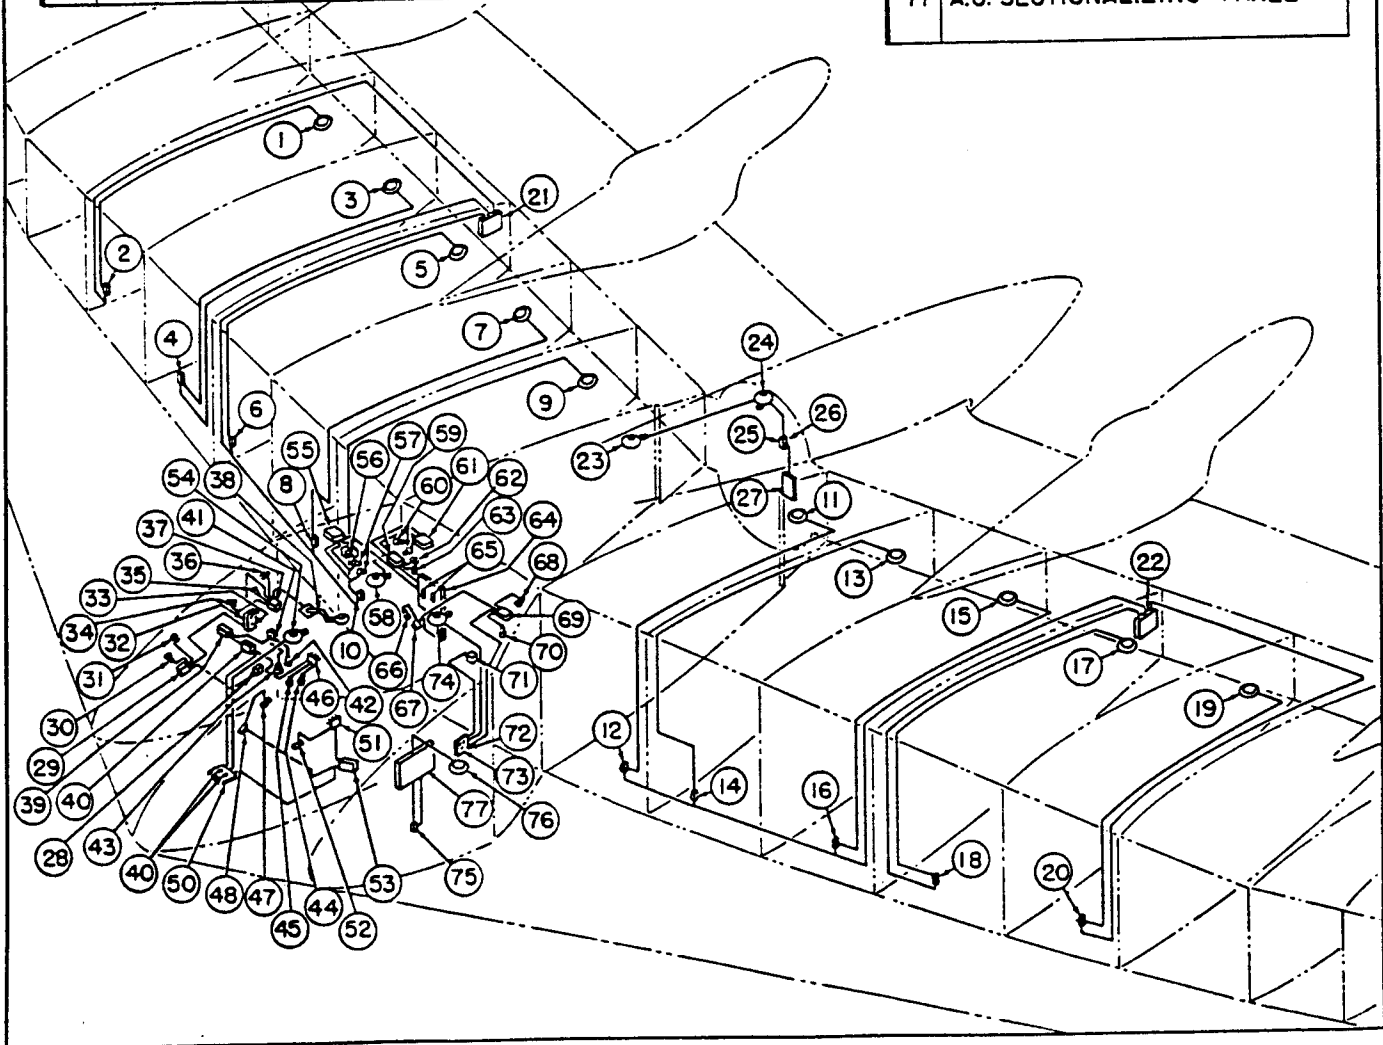

Figure 19. Interior Lighting - Schematic
(2) INTERIOR LIGHTING. (See figure 19.)